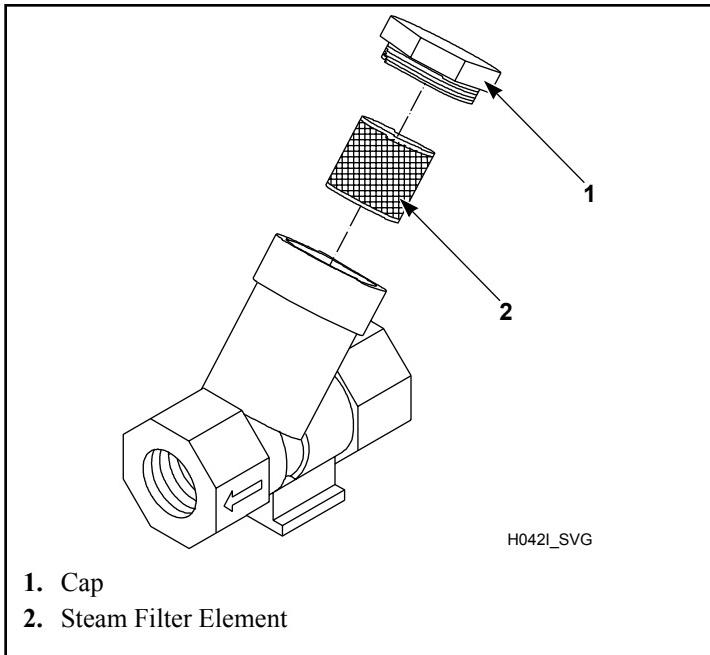

Figure 43
5. Clean customer-supplied steam filter, where applicable. Refer to *Figure 43*.